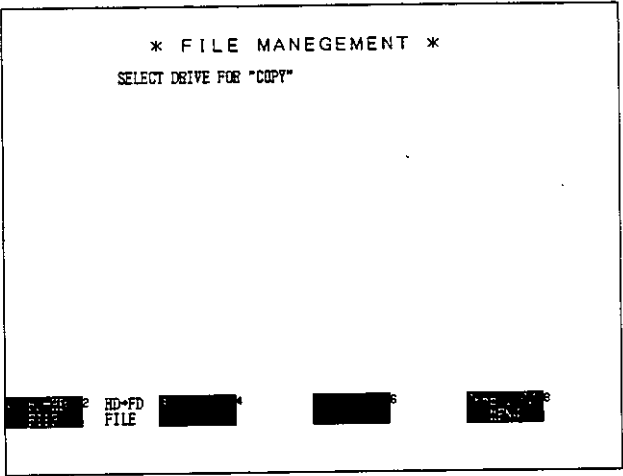
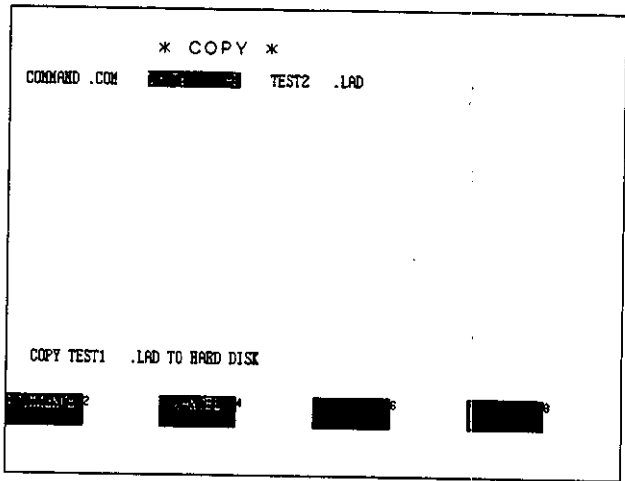

Figure 6.377
Figure 6.379
- (1) Before trying to write to a floppy disk, make sure that it does not have the write-protect switch turned on.
- (2) Select Previous Menu in the screen shown in *Figure 6.379* and the display returns to the screen shown in *Figure 6.377*.